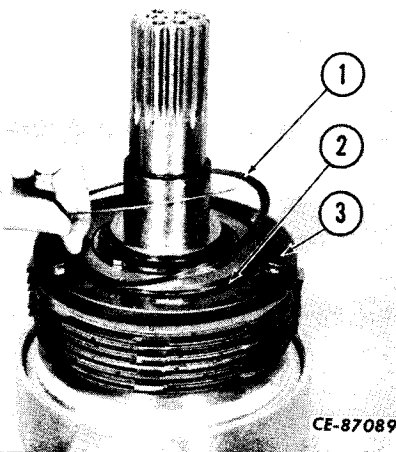

Figure 4-49
Install Spir-O-Lox retaining ring (1, Fig. 4-49) in backing plate (3). This locks in the external snap ring (2).